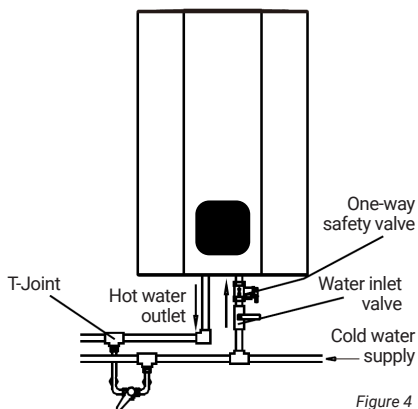

Figure 4
- (8) If users want multi-channel water supply, they can connect the water pipe according to the method shown in Fig 4.
- (9) After confirming that the rated values of electricity meters, wires, switches sockets and fuses in the power supply system meet the power consumption requirements of this product, connect a separate power socket at an appropriate position to supply power to the electric water heater. The installation height of power socket from the ground shall not be less than 1.8m.